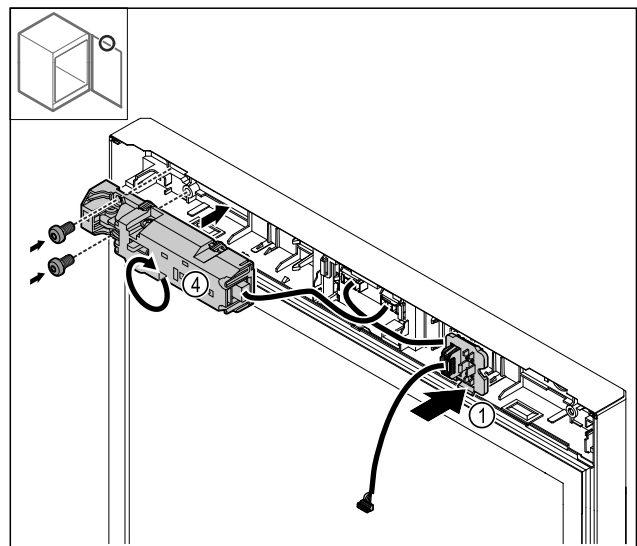

Fig. 28
- ▶ Engage the plug holder Fig. 28 (1) on the opposite side.
- ▶ Turn the electrical lock Fig. 28 (4) by 180° and attach on the opposite side.